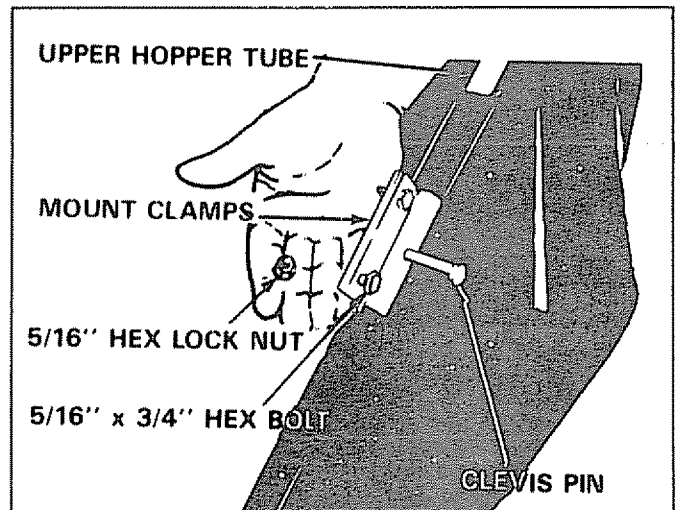

FIGURE 22
- Assemble mount clamps to each side of upper hopper tube. Place one clevis pin through clamps, hopper bag and hopper tube, then secure clamps together with two 5/16" x 3/4" hex bolts and 5/16" lock nuts. See figure 22. Tighten securely.